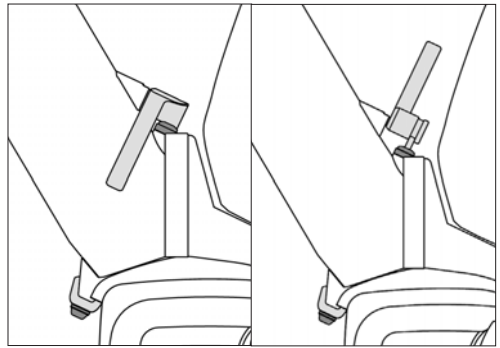

Fig. 30: Open the frame quick release.
3. Open the frame quick release by lifting up on the lever (fig 30).
4. Ensure the frame quick release is in the open position (Fig. 30 page 36).